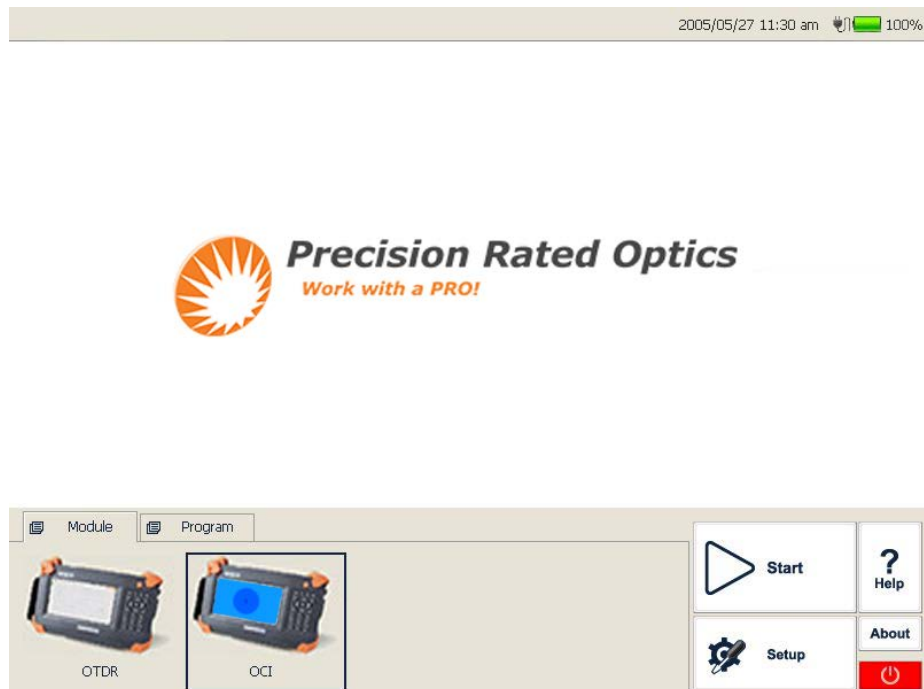

Fig. 18.1 Optical Connector Inspector Interface
- 3) Click “OCI” icon to enter Optical Connector Inspector interface as shown in Fig 18.1.